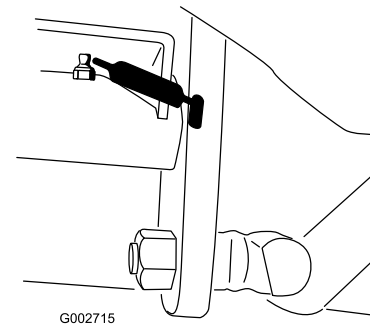

Figure 22
- Traction pedal pivot (1) (Figure 22)